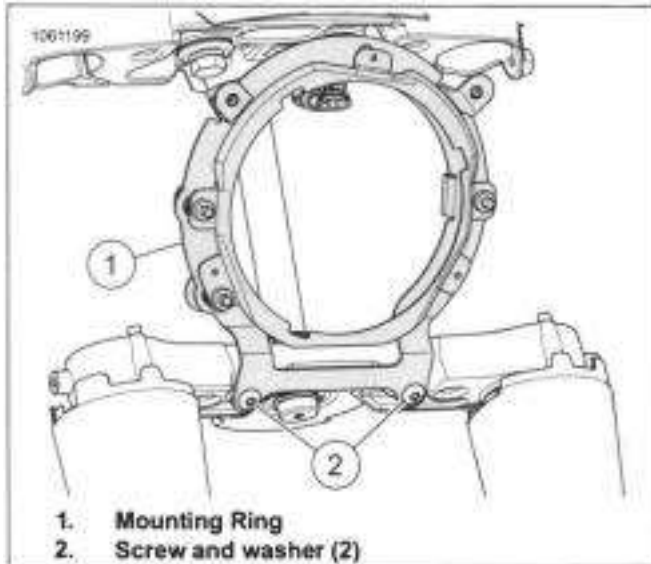

Figure 7-51. Headlamp Mounting Ring
3. See Figure 7-51. Remove screw and washer (2).
4. Remove mounting ring (1).
1. See Figure 7-51. Install mounting ring (1).
2. Install screw and washer (2). Tighten.